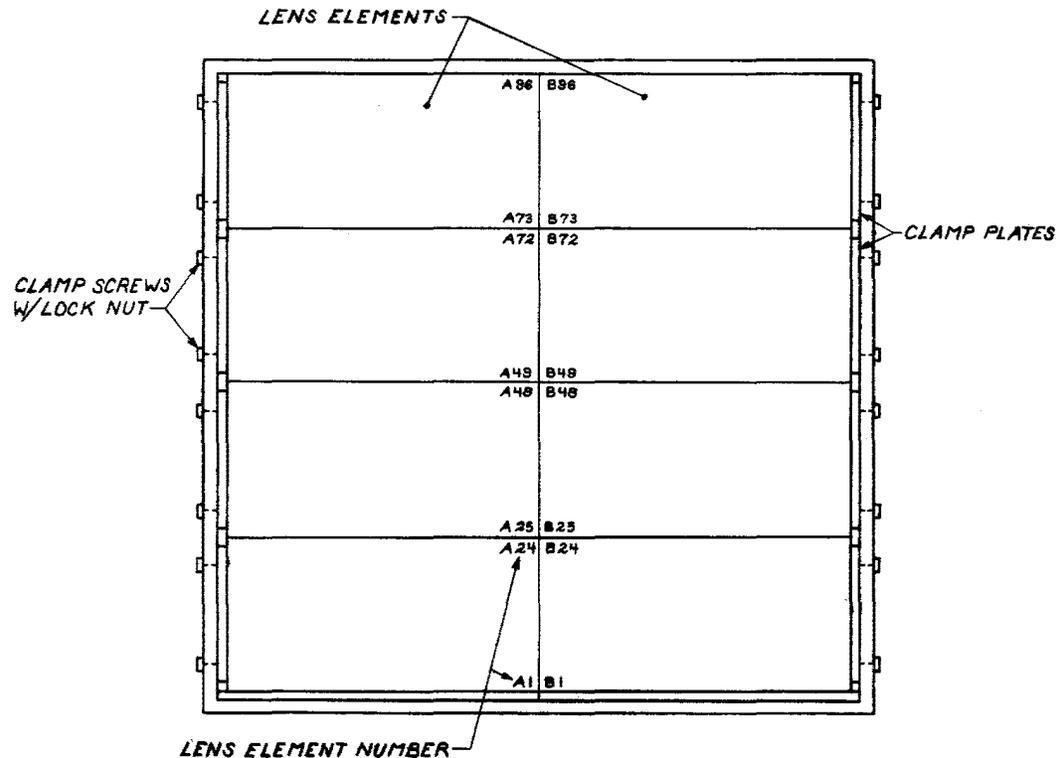

Fig. 3 - Element Retainers
**3.03** Unset the lock nuts on all clamp screws (see Fig. 3).
**4.04** The lens elements are to be installed in the antenna housing in the arrangement shown in Fig. 3, starting with elements A1-A24 and B1-B24.